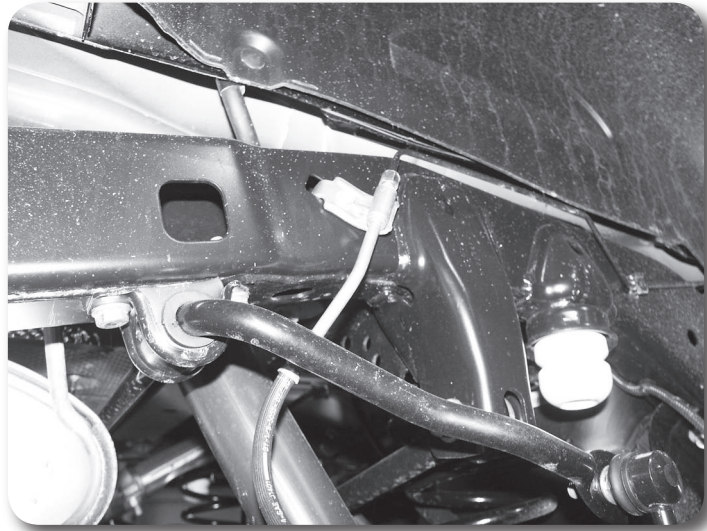

Figure 4
11. Install the provided bump stop spacers on the axle using the existing holes in the axle bump stop pad. Fasten the bump stop to the axle with 5/16" x 7/8" bolts, nuts and 5/16" SAE washers. Torque bolts to 20 ft-lbs. (Figure 4)